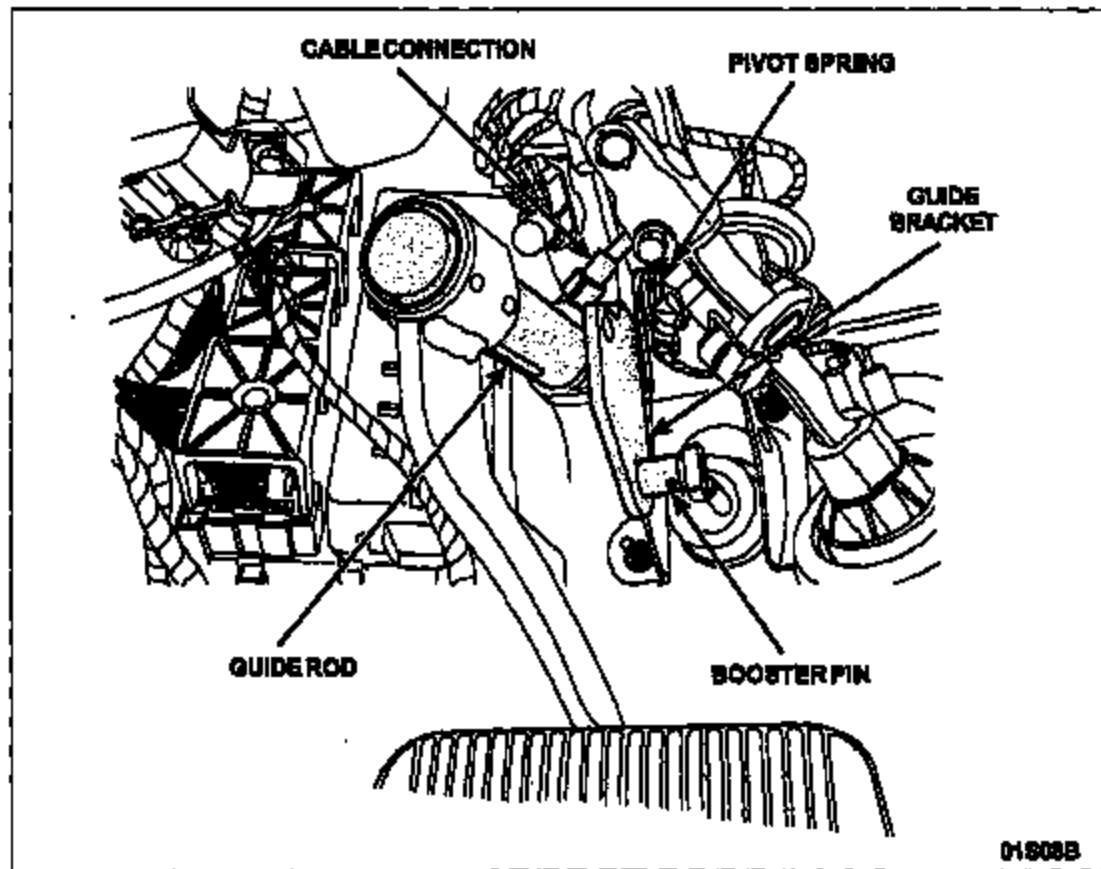

FIGURE 2
6. NOTE: Do not use solvents when removing the lubricating grease from the brake pedal assembly. Use a shop cloth to remove any lubricating grease from the outer surfaces of the following brake pedal assembly components. See Figure 2.